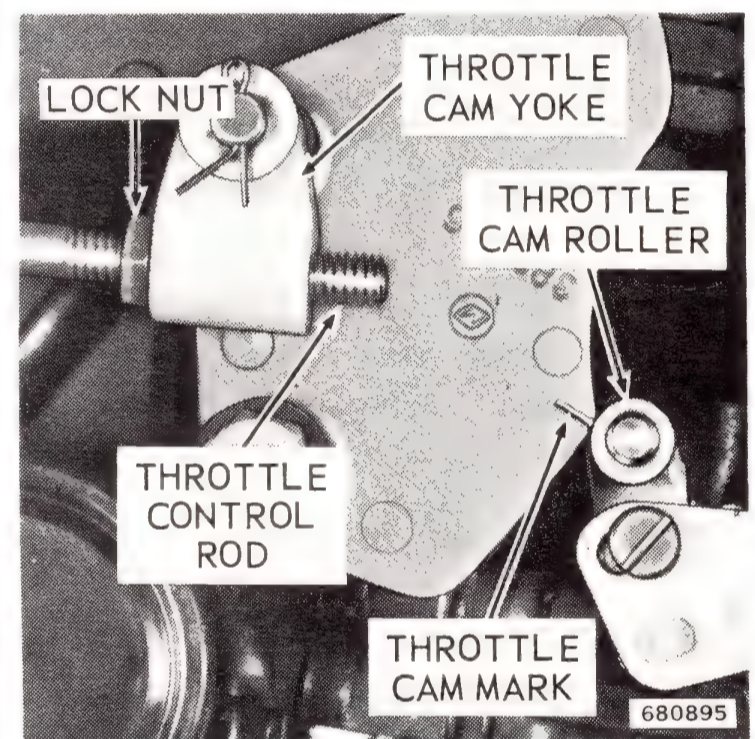

Figure 4-24. Throttle Cam Adjustment
a. Mark on throttle cam must align with center of cam follower roller just as roller makes contact with cam. See Figure 4-24.
b. With distributor base and throttle lever at full throttle position against their stops, the carburetor throttle shaft must also be against its full throttle stop. Adjust if required by turning throttle cam yoke on throttle control rod. See Figure 4-24.